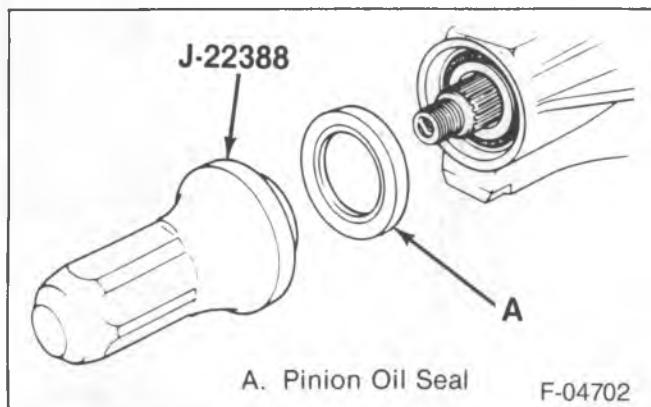

Figure 14—Installing the Pinion Oil Seal
- 1. The pinion inner bearing (5) using J 8609-01.
- 2. A new collapsible spacer (4).
- 3. Pinion (7) to the axle housing.
- 4. Outer pinion bearing (39) onto the pinion using J 5590.
- 5. Pinion oil seal (38) using J 22388 (figure 14).
- 6. Pinion flange (37) to the pinion by tapping it with a rawhide hammer until a few threads show through the pinion flange.